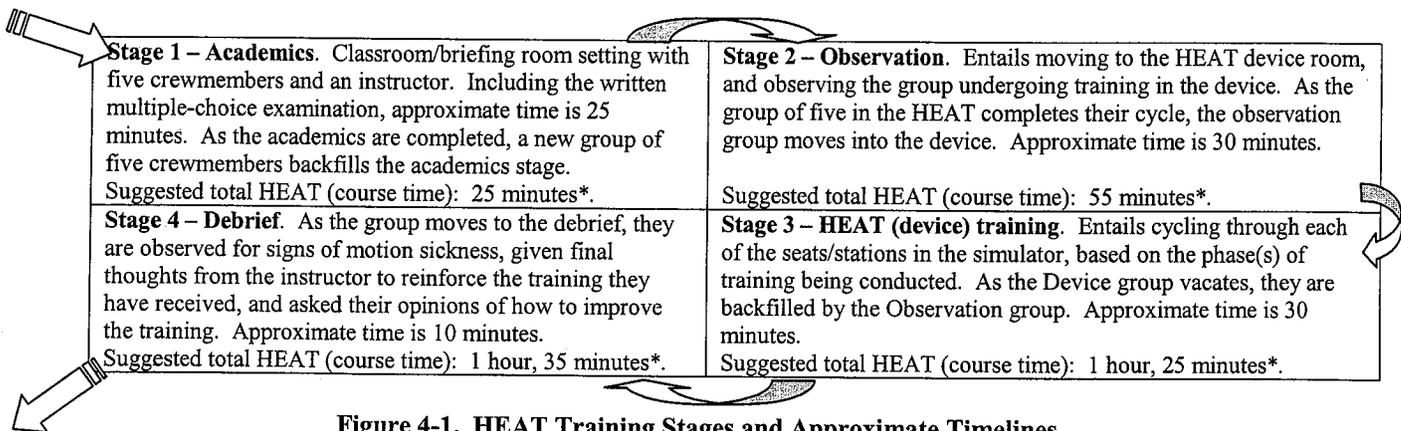

Figure 4-1. HEAT Training Stages and Approximate Timelines
(3) Each training phase is comprised of four **stages**, as depicted in figure 4-1: Academics, Observation, Training, and Debrief. Each stage entails five HEAT Training participants and one instructor. While training with the HEAT is generally event-driven, approximate times in each stage are denoted in figure 4-1.